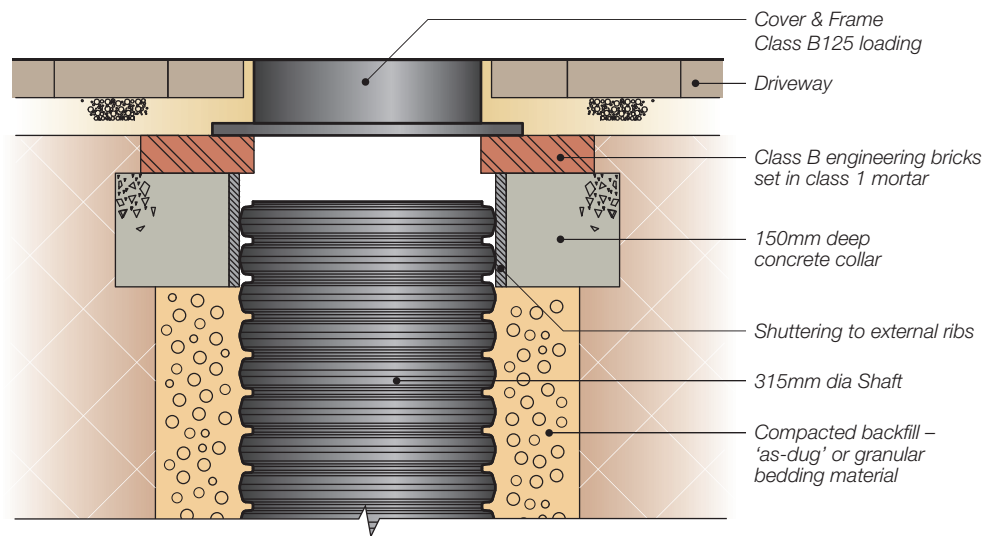

Fig.7. Installation detail for B125 loading: paved areas with limited traffic load and for D400 loading: roads with heavy traffic loads
For B125 applications (See Fig.7)
- According to required loading application, position Ductile Iron B125 Cover and Frame or D400 Cover and Frame on top of slab. (See Fig.7)